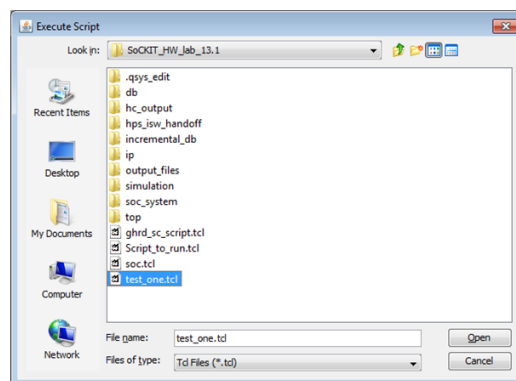

Figure 6.2.3
- There will be a pop up window that appears that looks as shown in Figure 6.2.3